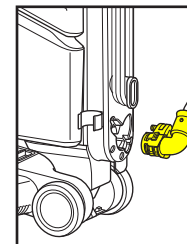

fig. 8
4. Detach the hose by squeezing the fitment clips on the hose attachment. (fig. 8).